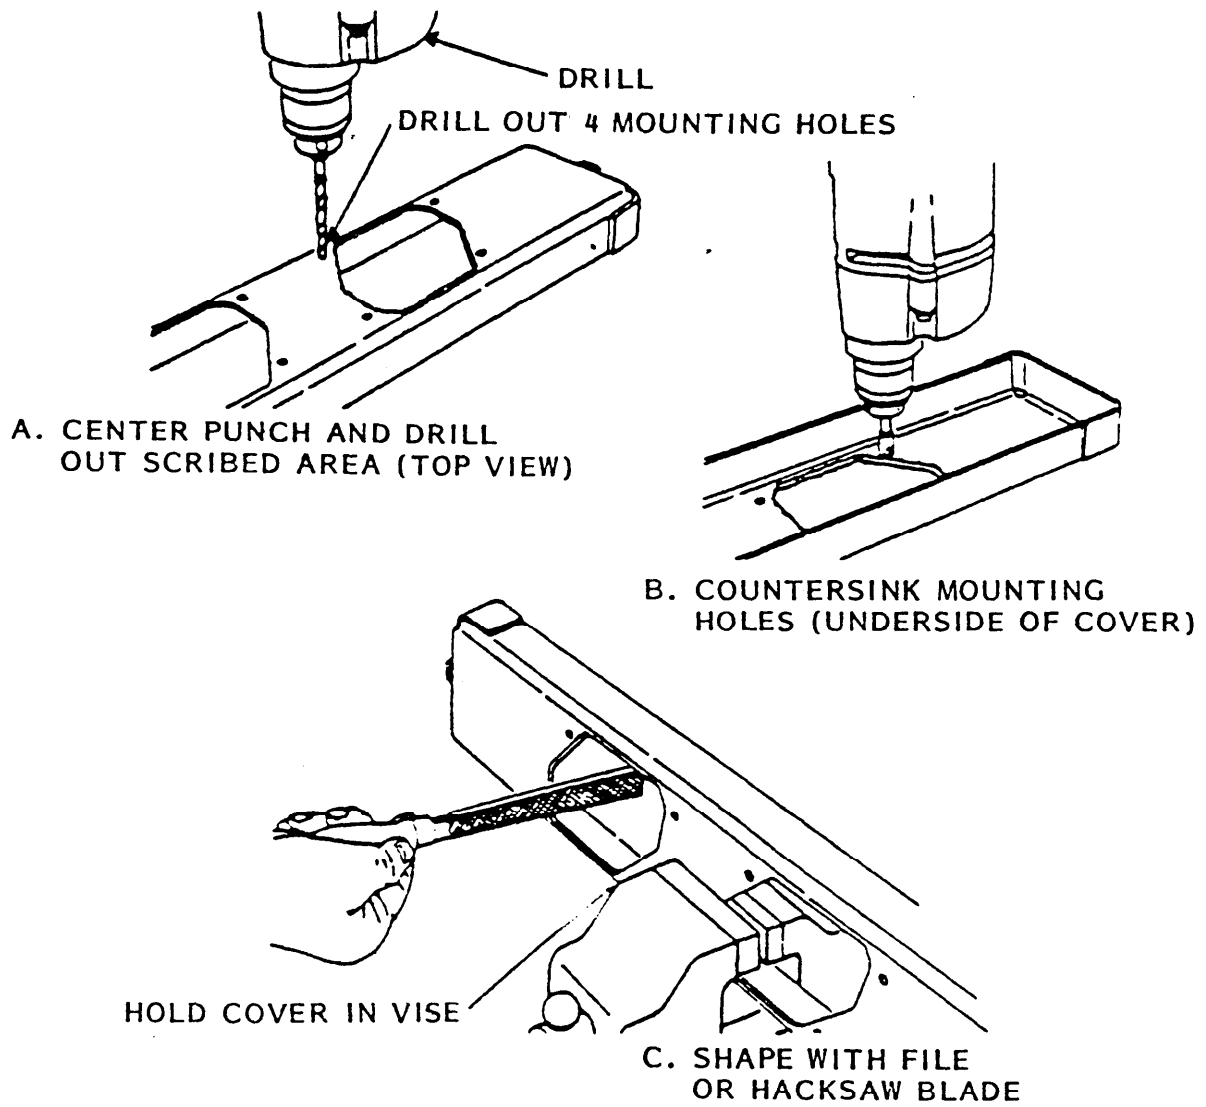

Figure 13. Modification of cover
- (7) Center punch the four mounting holes. Place cover in a vise and drill out the holes using a 3/16-inch drill bit (A, fig. 13).
- (8) using countersink tool 5133-00-239-0786 (6, fig. 5), countersink the underside of the four mounting holes until the mounting screw heads are slightly below flush when installed (B, fig. 13).
- (9) Drill a series of adjoining or Overlapping holes around the inner circumference of the chute access opening (marked in (6) above) with a 1/4, 3/8, or 7/16-inch drill bit (A, fig. 13).
- (10) File, saw, or grind as necessary to shape the opening as previously marked and remove all burrs and sharp edges (C, fig. 13).